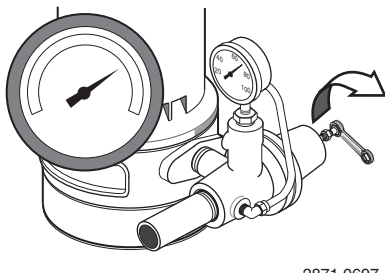
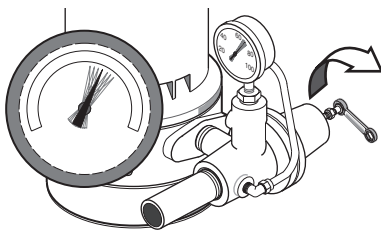
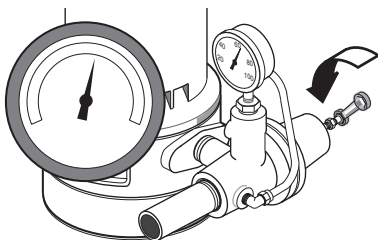

Figure 15: Open Regulator Valve
Figure 16: Watch for Pressure Gauge to Flutter
Figure 17: Close Regulator Valve Until Pressure Stabilizes
4. Once unit has primed and pressure stabilized, slowly open (turn counterclockwise - Figure 15) regulator valve until pressure falters (pressure gauge needle flutters; pump may become noisy - see Figure 16). At this point, close (turn clockwise) regulator valve slightly until pressure stabilizes. This setting provides maximum flow (Figure 17).